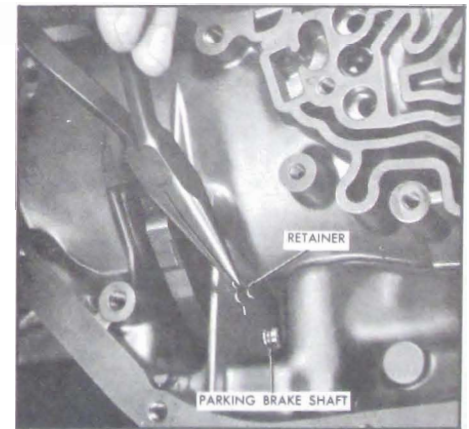

Figure 5-531
i. Remove parking pawl shaft retainer. See Figure 5-531.